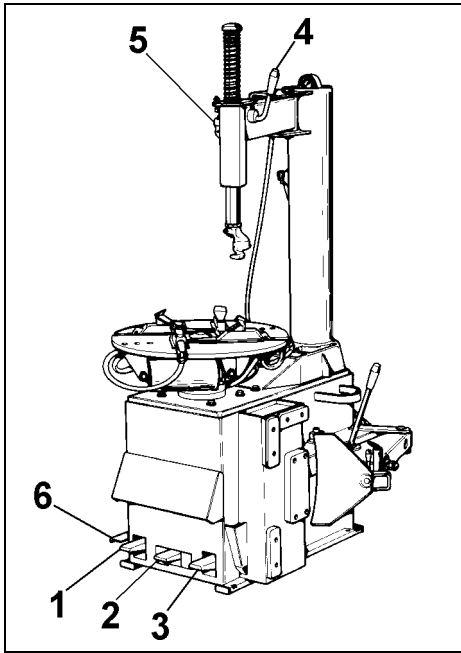

Fig.10
**D** Lower the lock handle (#4 Fig.10) to unlock the vertical slide, lift the handle to lock.
**E** Turn adjustment knob (#5 Fig.10) for positioning mount/demount head to rim diameter.
**F** Press bead-seater pedal on left side of the machine (#6 Fig.10) half way down: air will come out from inflation hose end.